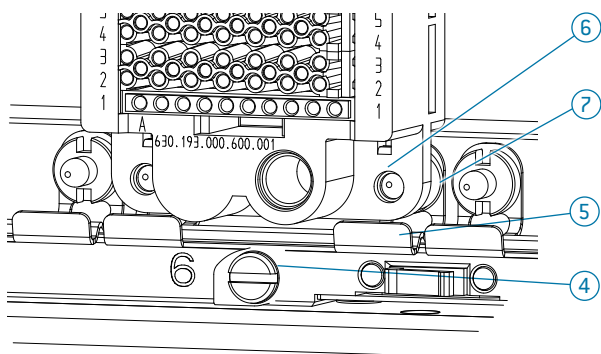
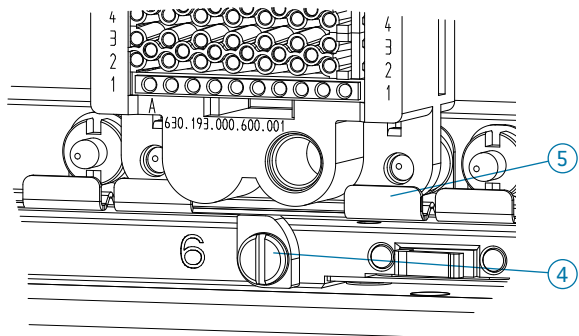

Fig. 70
Fig. 71
- ▶ To insert a connector, undo the top and bottom eccentric screws (4) at the relevant slot. Do this by turning the eccentric screw counterclockwise by 90° [Fig. 70].
- ▶ Make sure the edge with the two guide bushings (1) is at the top.
- ▶ Insert the connector (3) into the slot. Do this by fitting the holes in the frame (6) onto the centering pins (7).
- ▶ Turn the top and bottom eccentric screws clockwise by 90° to close them. The spring plate of the bracket (5) moves into the locking position when the eccentric screw (4) is turned. This fixes the connector into position at (4) and (5) [Fig. 71].
- ▶ Please use an appropriate cable length for the cable harness of the connectors (3). To remove the connectors (3) it is necessary to pull these to the front, turn it slightly and push the connector through the receiver.